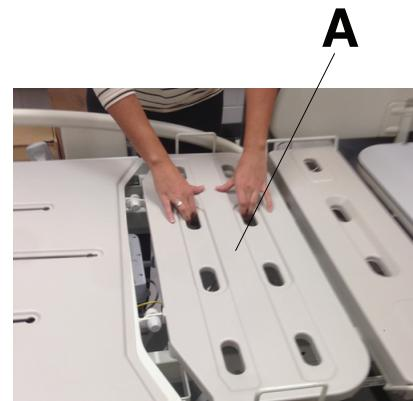

Figure 3 – Removing the upper leg rest cover
1. Remove the upper leg rest cover (A) (Figure 3).